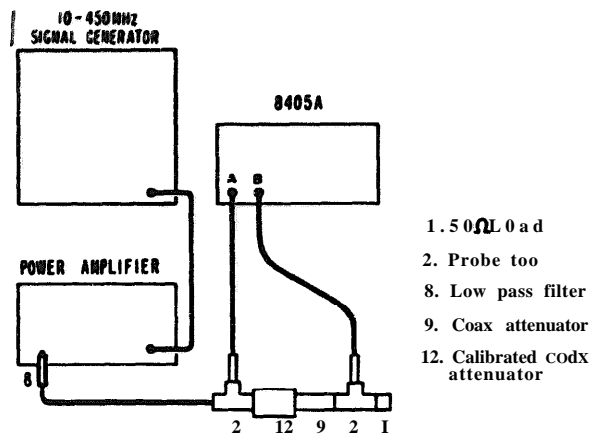

Figure 4. Voltage Ratio Accuracy
- Set up test equipment as shown in Figure 4.